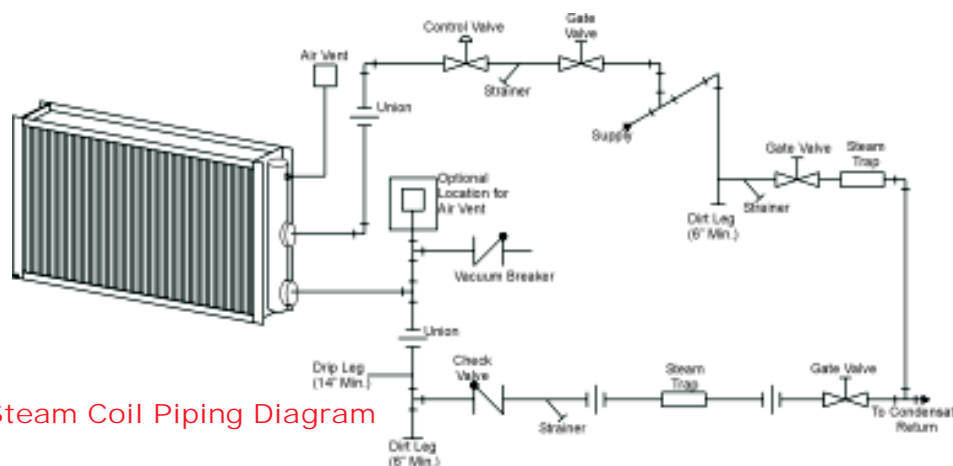

Figure 3 - Steam Coil Piping Diagram
5. Utilize vacuum breakers on each coil. Steam traps require a positive pressure differential to force the condensate through the valve seat. If the coil's pressure drops below atmospheric, the pressure differential across the valve will be negative and the condensate will not drain. This condition can lead to serious damage or failure of the coil due to freezing, water hammer and corrosion. Refer to piping diagram for recommended placement. See Note 1 in Figure 3 - Steam Coil Piping Diagram on Page 3.
7. Provide an air vent for each coil at its highest location. Heatcraft provides a ½" threaded vent connection on the return manifold as a standard on all steam coils. Non-condensable gasses present in the steam will collect in a coil and reduce its capacity. Therefore, it is necessary to provide a means for the removal of these gasses. Also, these gasses can diffuse into the condensate forming byproducts, which can lead to severe corrosion. See Note 1 in Figure 3 - Steam Coil Piping Diagram on Page 3.
14. Refer to Figure 3 - Steam Coil Piping Diagram on Page 3 for general piping.